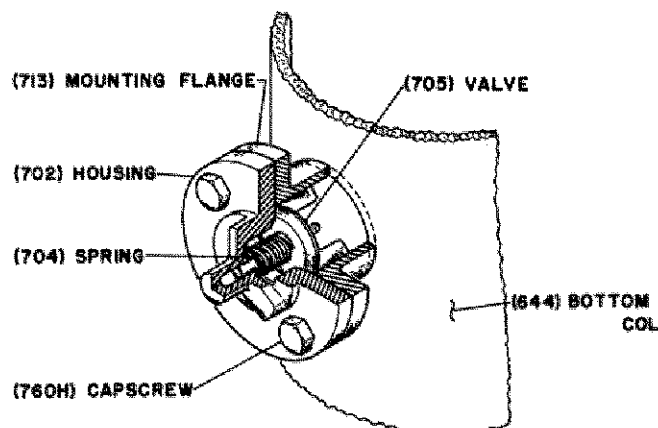
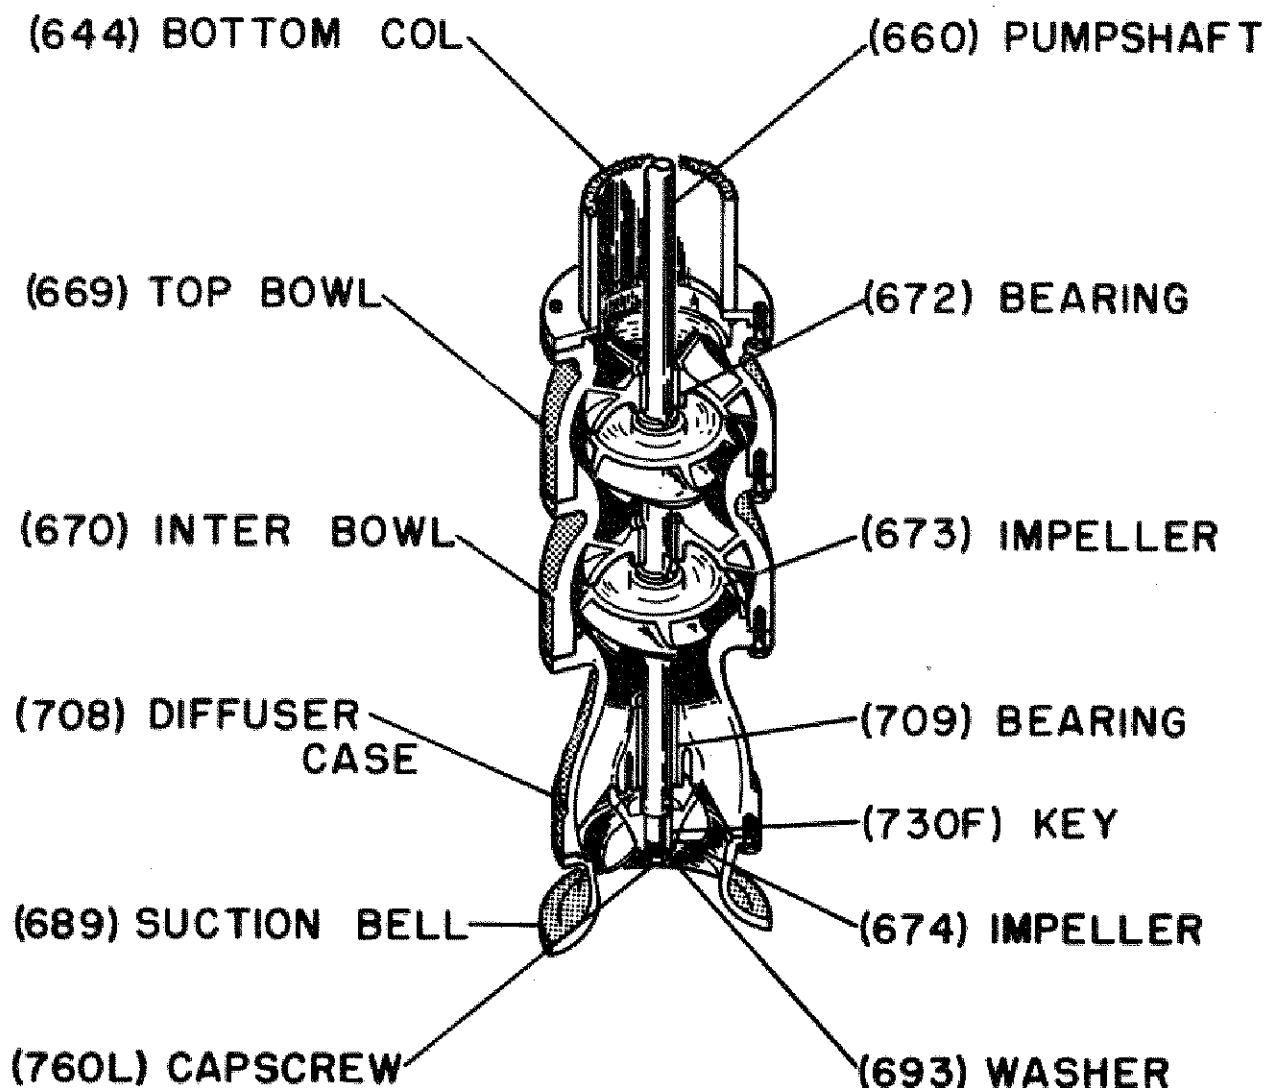

FIGURE 15-1. AUTOPRIME VALVE
FIGURE 15-3. MIXED FLOW AND TURBINE BOWL ASSEMBLY
P. Remove capscrews (760H) that secure auto-prime valve (705) to lower column (644) and remove valve. Disassemble valve and inspect for indications of excessive wear, corrosion, broken springs, and valve face for damage. (See Figure 15-1.)
Q. Remove capscrews that secure top bowl (669) to bottom column (644), and remove bottom column.
R. Disconnect lineshaft (646) and remove from threaded coupling (649). For keyed shaft, refer to Step N.
15-4. BOWL DISASSEMBLY. There are two types of bowl assemblies, turbine and mixed flow, and several different types of impeller construction. (See Figure 15-2.) The bowl assembly shown in Figure 5-1 is composed of the suction bell, diffuser case, adapter case, intermediate bowl, top bowl, mixed flow impeller, with key, thrust and snap rings, turbine impeller with taper collets, bearings and a mixed flow pumpshaft with coupling connecting to turbine pumpshaft. The bowl shown in Figure 15-3 is the same except there is no adapter case, pumpshaft is one piece and no coupling is required. Also the mixed flow impeller is secured with a left-hand capscREW (760L) and washer (693).